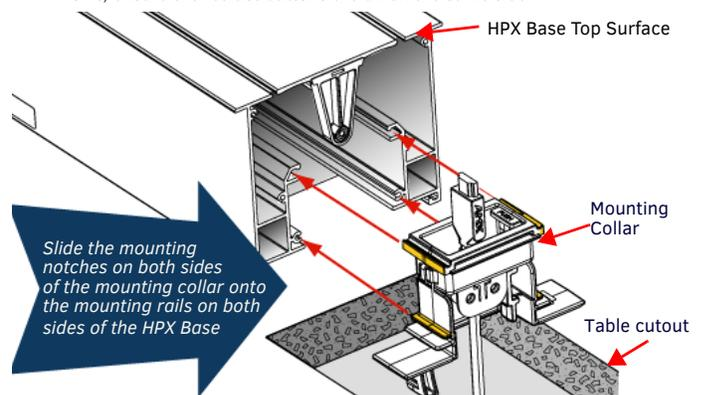

FIG. 5 RETRACTABLE CABLE MODULE - MOUNTING INTO AN HPX BASE ASSEMBLY
8. Feed the mounting collar up through the table cutout without twisting the cable, to reach the HPX base assembly. Align the mounting notches on the mounting collar with the mounting rails on the HPX base assembly (FIG. 5).